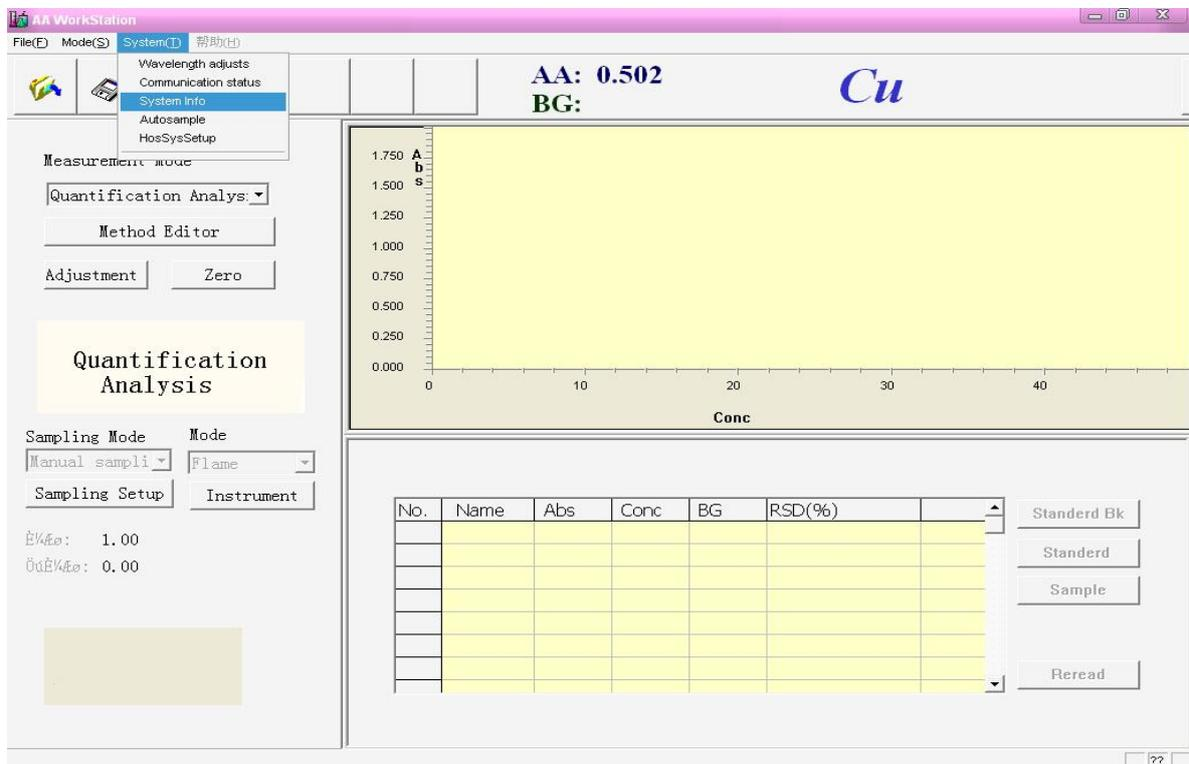
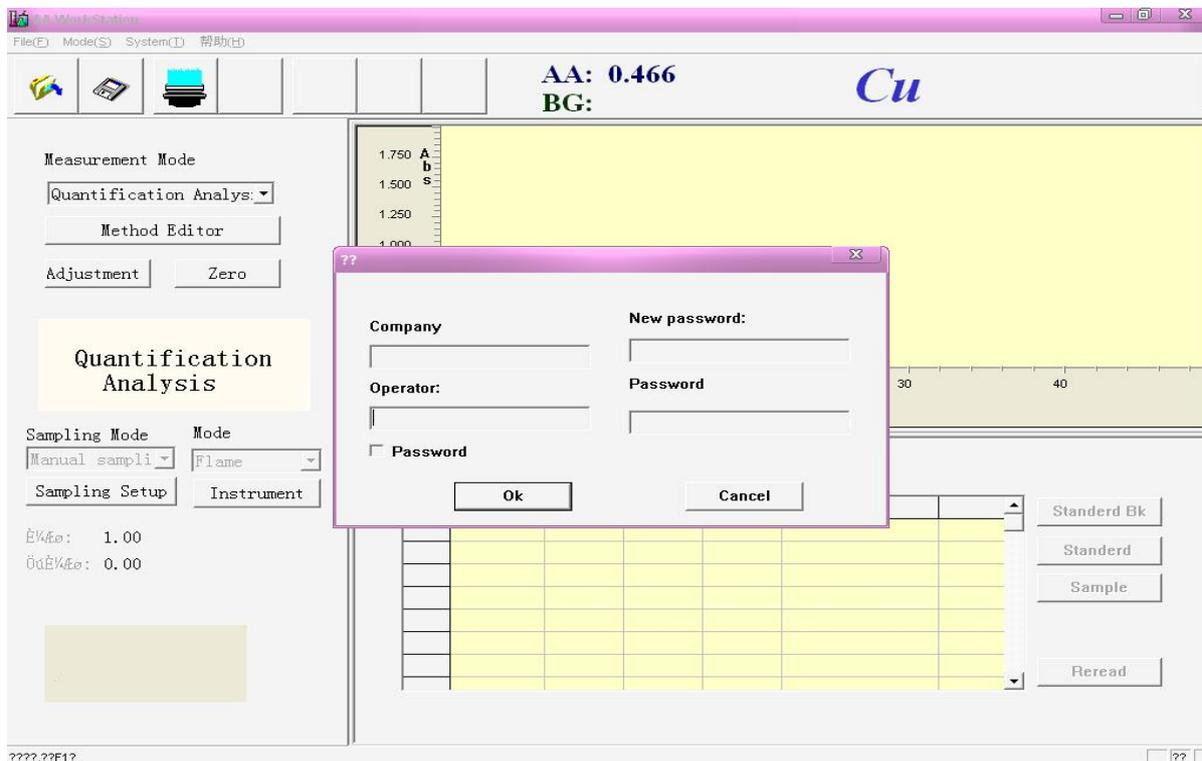

Figure 4-7
Figure 4-8
a. Select the System / system info in the menu bar, as shown in Figure 4-7, the dialogue box is shown in Figure 4-8